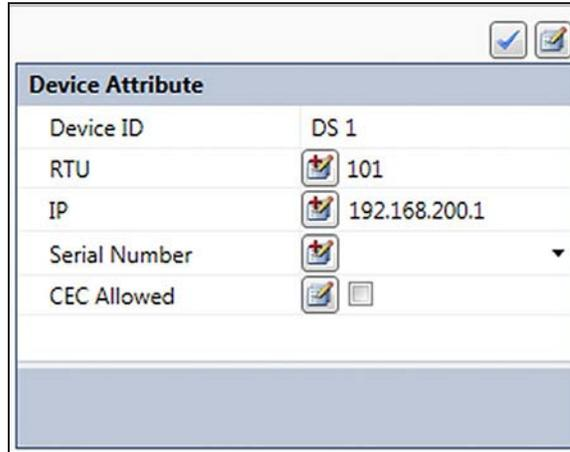

Figure 70. The Multi Update buttons on the Device Attribute dialog box.
**STEP 10.** Alternatively, use the Multi Update dialog box to make multiple updates. Select the desired attributes to edit, and click on the **Multi Update Dialog Box** button. Only attributes with Multi Updateable values are visible. See Figures 70 and 71.